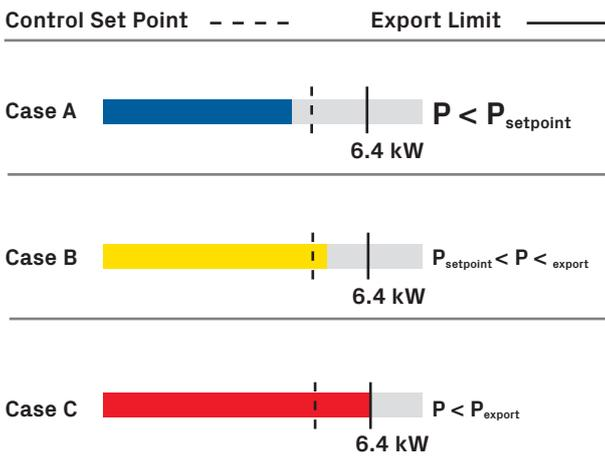

Figure 21 - Export control monitoring
- Figure 21 - Export control monitoring